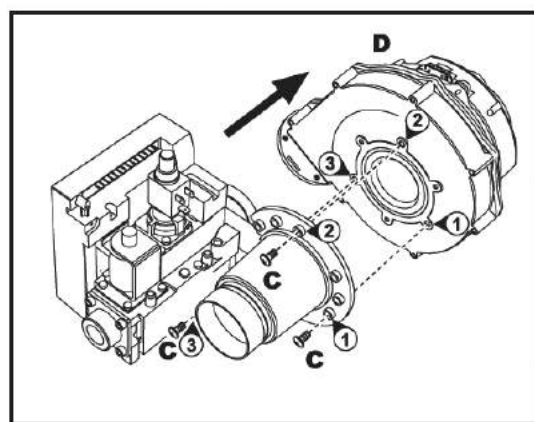

fig. 52 - model FUTURIA power 125 - 250
6. Undo the screws "C" and remove the fan "D" (Fig 52) model (125- 250) only.